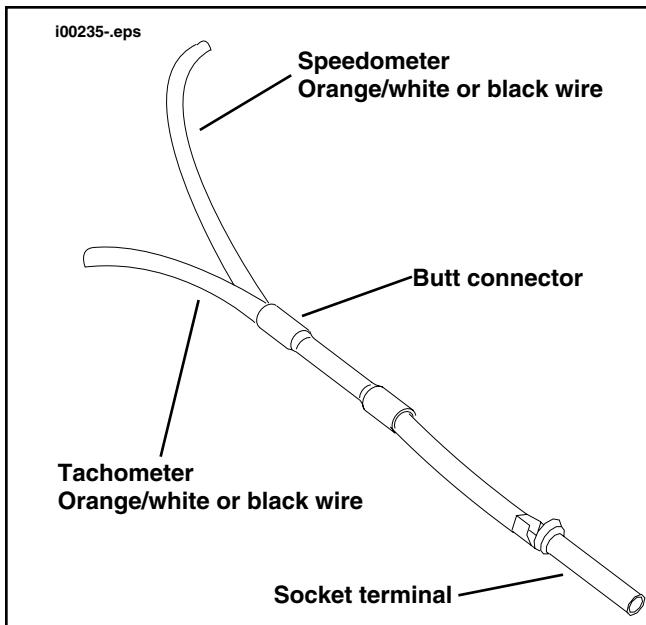

Figure 6. Connect Speedometer and Tachometer Wires
- 8c. See Figures 6 and 2. Use one of the butt connectors from the kit and connect the ground leads as shown. Refer to "SEALED BUTT CONNECTORS" in the appropriate Service Manual for complete procedure.
- See Figures 6 and 2. Use one of the butt connectors from the kit and connect the ground leads as shown. Refer to "SEALED BUTT CONNECTORS" in the appropriate Service Manual for complete procedure.